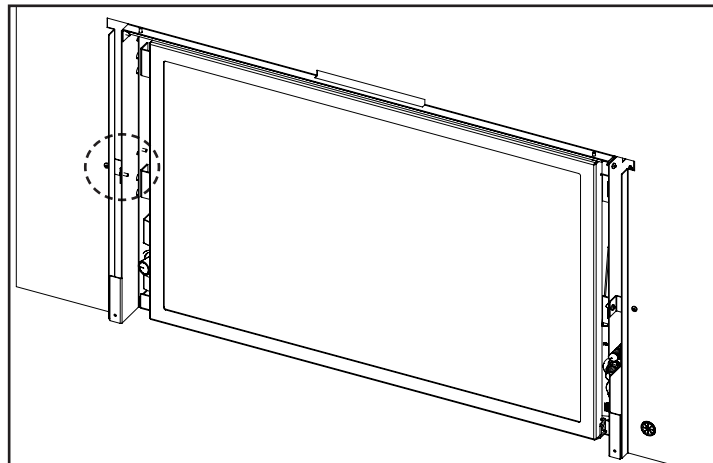

Figure 42: Trimmable Panel Installed
3. Using the remaining hardware attach the Trimmable Panel to the Panel Brackets using a T-20 Torx screwdriver (See Figure 42).